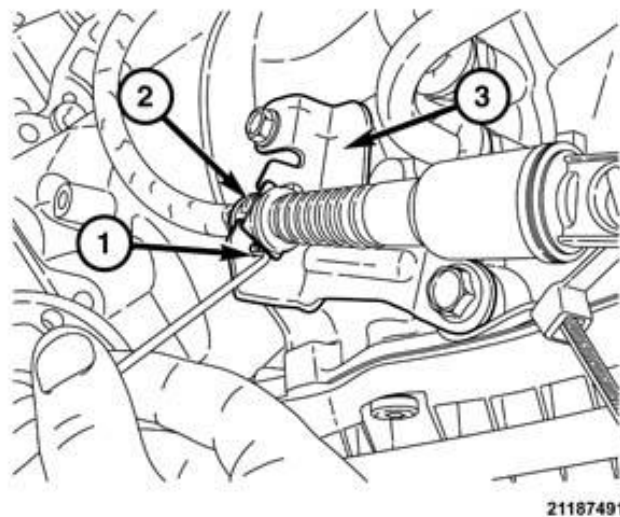

Figure 28 – MPR Cable Locking Tab
65. Release the locking tab (1) from the MPR cable (2) and remove the cable from the bracket (3) (Figure 28).